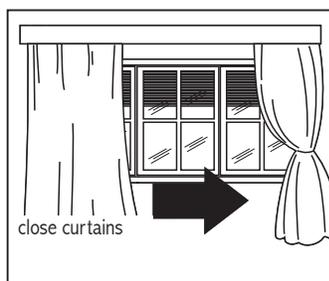

Fig. 23.
- Protect the room from direct exposure to the sun by partially closing curtains and/or blinds to make the unit more economical to run (fig. 23);